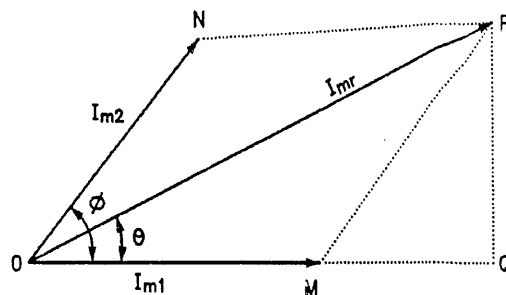

FIG. 2.19 : PARALLELOGRAM METHOD
- Let two alternating currents i_1 , and i_2 in the two branch of a circuit as shown in Fig. 2.19.
- The maximum values of two current I_{m1} and I_{m2} are represented as the two adjacent sides of OM and ON respectively of a parallelogram OMPN as shown in Fig. 2.19.